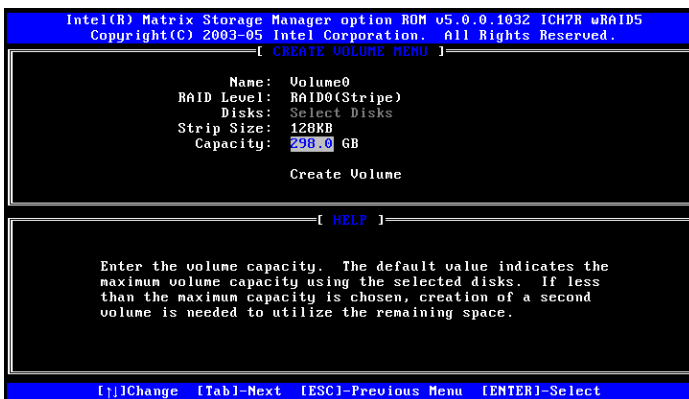

Figure E-5: Enter the Volume Capacity
Step 5: Enter the **Volume Capacity**. Enter the volume capacity, or press **ENTER** to accept the default capacity. See Figure E-5.